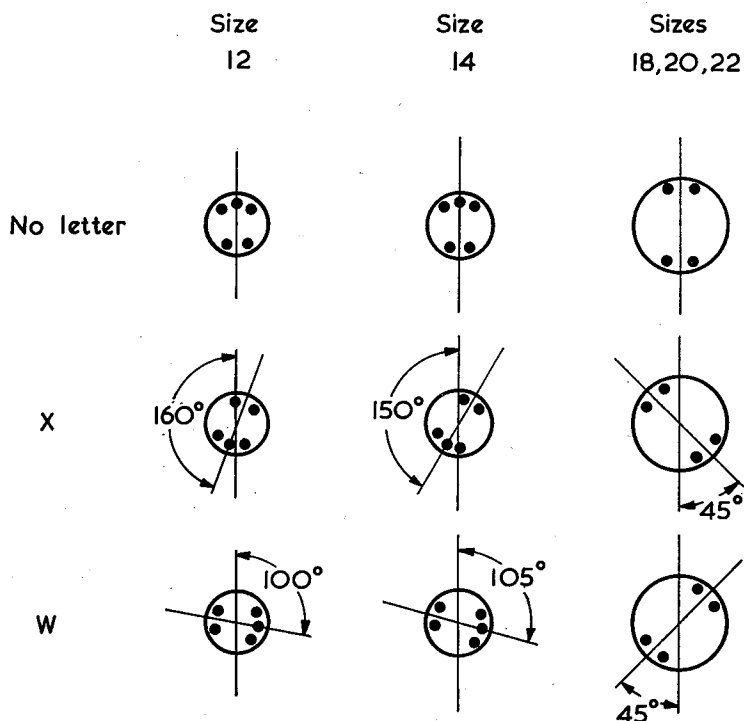

Fig. 5. Alternative insert orientations
11. To avoid mismating of adjacent connectors, provision has been made for the inserts of the connectors to be assembled in alternative positions as shown in Fig. 5.
W—Insert orientation—(Fig. 5)